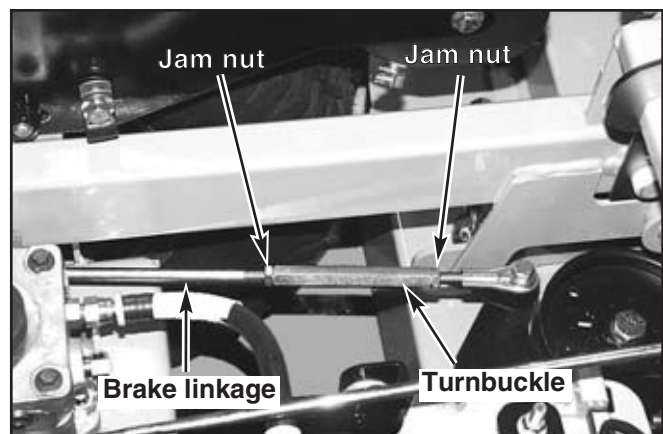

Figure 5-11
7. Loosen the brake linkage jam nuts. Fig. 5-11